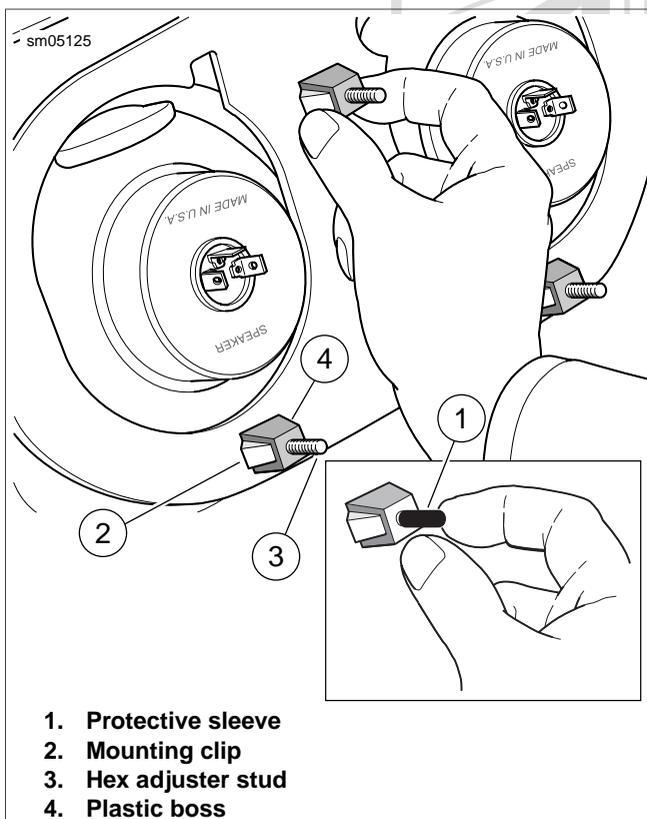

Figure 8-20. Depress Mounting Clips
5. See inset of Figure 8-20. Remove protective sleeve from top center hex adjuster stud.
See inset of Figure 8-20. To avoid cutting or chafing wires, be sure to install protective sleeve on top center stud of headlamp assembly.